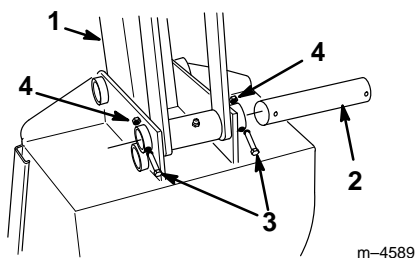

Figure 11
2. Remove the bolts and nuts securing each of the two bucket pins to the dipperstick (Fig. 11).
4. Align the pin holes in the bucket with the mounting holes in the dipperstick (Fig. 11).
5. Secure the bucket with the pins, bolts, and nuts removed previously (Fig. 11).